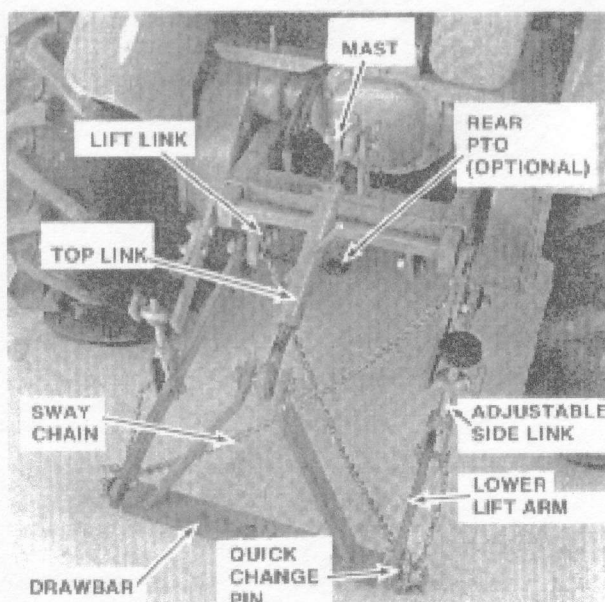

Figure 24. Three-Point Hitch
1. Refer to figure 24. Attach the lower lift arms to the mounts using the sway chain and bolt arrangement. Lower lift arms are mounted to the outside of the mounts with the chain eye and hole end toward the rear of the tractor. Chain eye should be upward. Place a 5/8 inch ID wasfer/spacer on the mounting bolt be-
6. Connect the lift link (fig. 24) to the 3 point hitch lift arm.
TOP LINK. (fig. 24) The top link is used to control the fore/aft pitch of the tool.